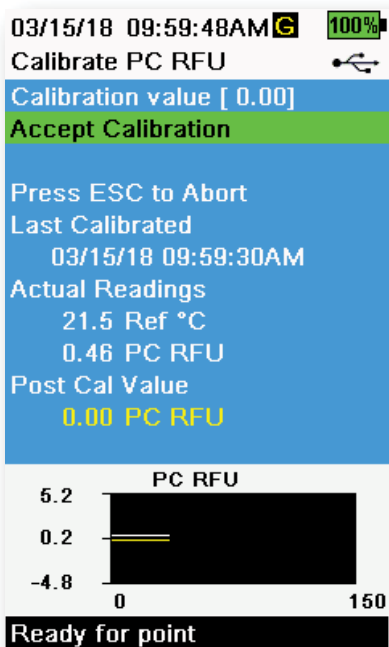

Figure 57 Calibrate PC RFU
8. Observe the temperature reading on the calibration display (Figure 57). Use the table in the Rhodamine WT dye solution preparation section to identify the appropriate value for the calibration standard.